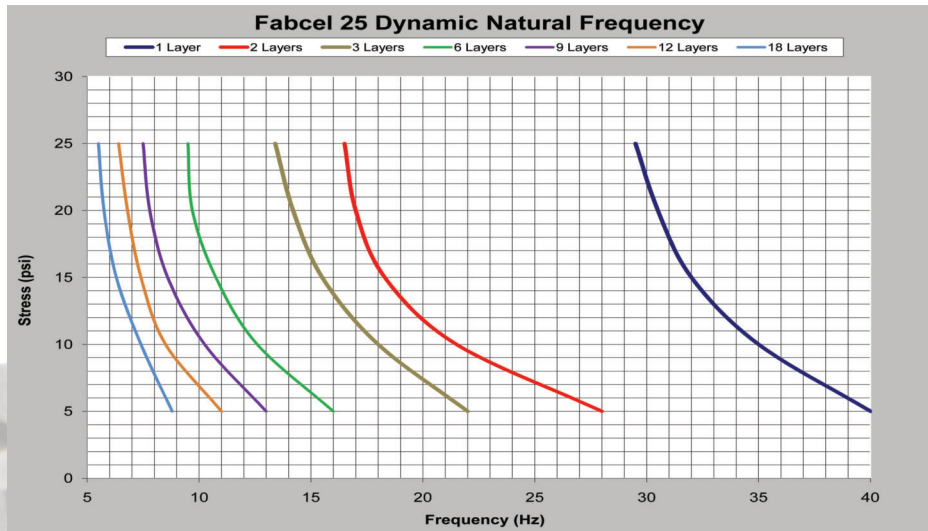

Figure 1 Dynamic Natural Frequency
**Dynamic:** The dynamic spring rate factor is calculated using the frequency value shown in Figures 1, 4, 7 and 10.